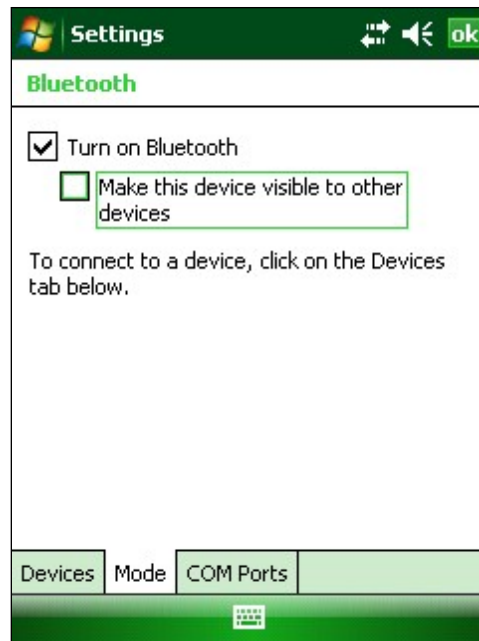

Figure 7 - Turn on Bluetooth
- 2) Once in the Bluetooth Settings Manager, click on the “Mode” tab and then make sure that the box next to “Turn on Bluetooth” is checked (Figure 7).